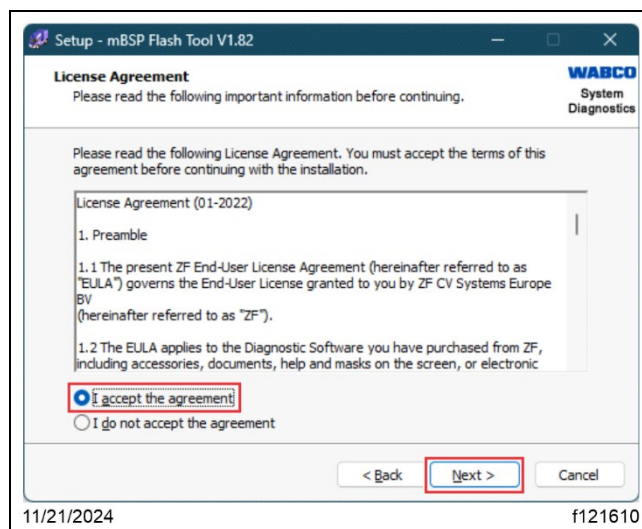

Fig. 34, License Agreement
7.6. On the 'License Agreement' screen, select the radio button next to 'I accept the agreement,' then select 'Next.' See Fig. 34.